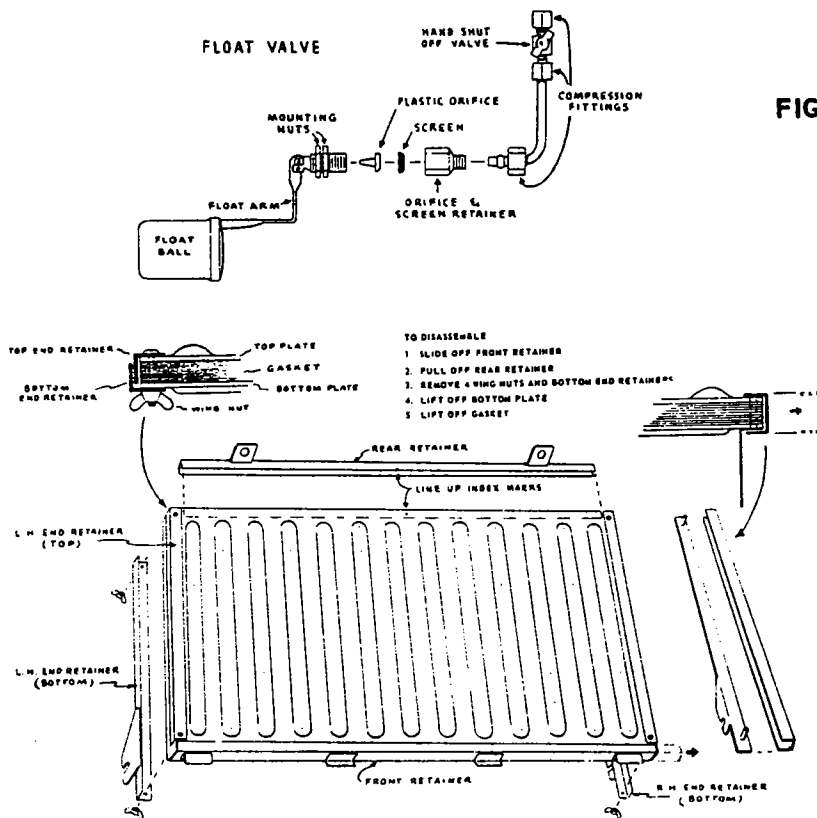

FIG. 7
2. The float valve has an internal screen. See Fig. 7.